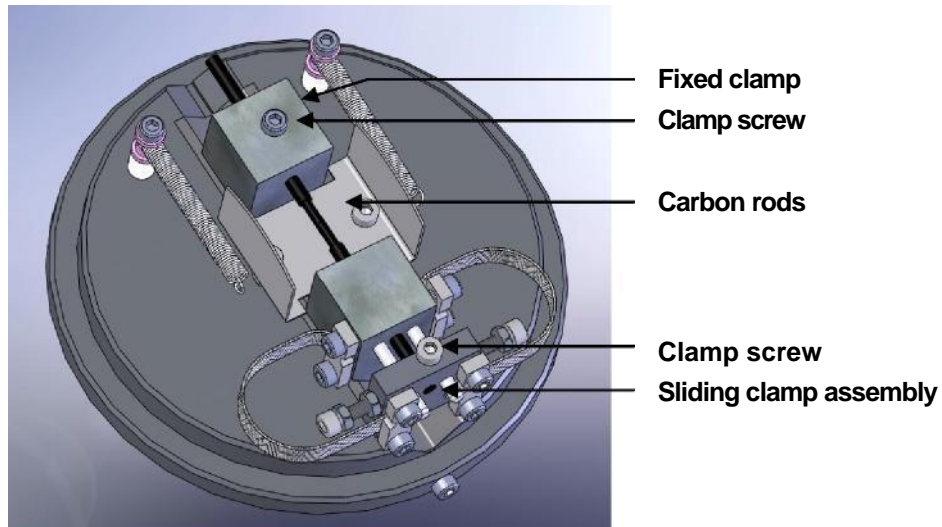

Figure 7-3.
8. Install the carbon rods (see Figure 7-3):